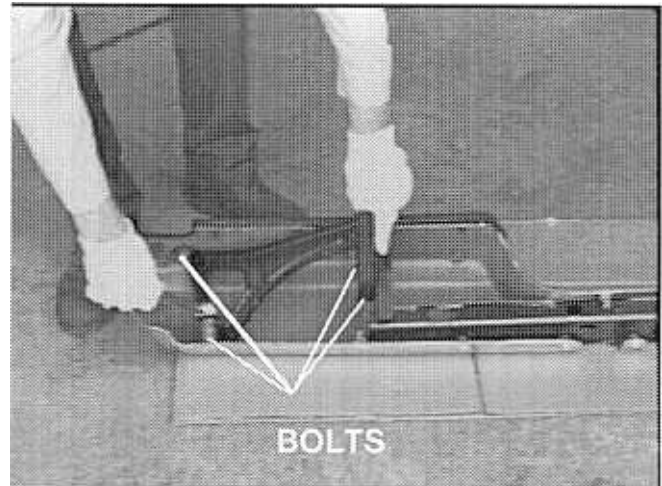

Figure 4
1. Loosen bolts holding the four bumper mounting brackets at bumper. See Figure 4.